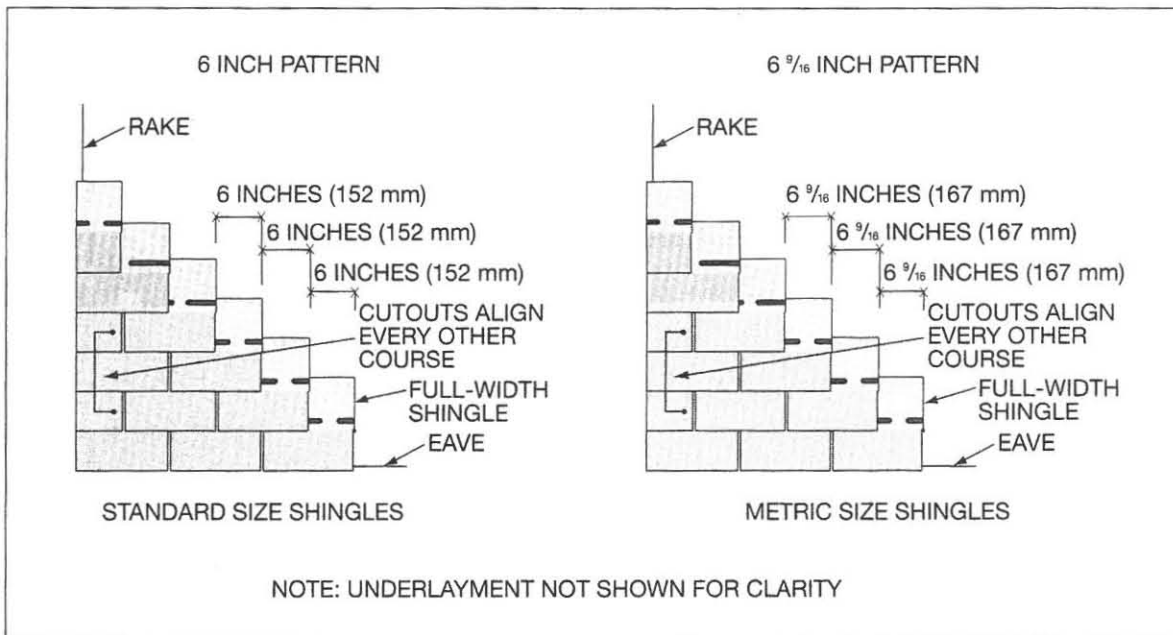

Figure 11:
- Cutouts that break joints on halves, or the 6-inch method — This procedure will establish a sidelap gauge pattern for a roof system whereby the cutouts break joints on halves with the course below the cutouts line up in every other course. For standard-size shingles, the offset pattern is achieved by offsetting consecutive shingle courses by 6 inches (150 mm). For metric-sized shingles, the offset pattern is achieved by offsetting each consecutive course 168 mm (6 5/8 inches). (see Figure 11).